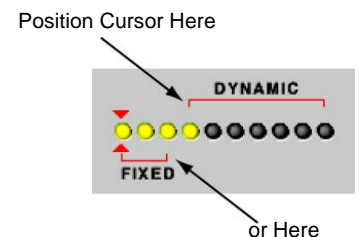

FIGURE 7-12: Changing Filter Allocation with the Mouse
1. Position the cursor between the red brackets as indicated to the right in Figure 7-12.